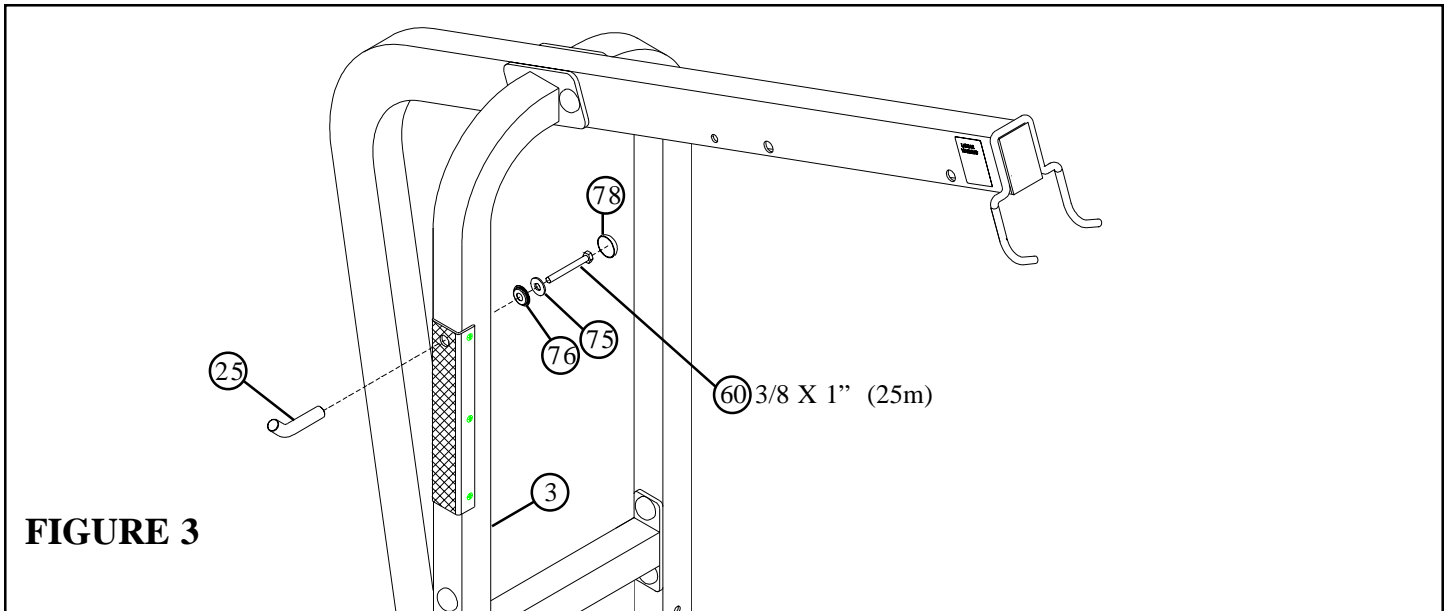

FIGURE 3
- **SECURELY** assemble one STORAGE PEG (25) to the LEFT BOOM SUPPORT (3) using one RH CAPS (78), one 3/8 X 1" BOLT (60), one 3/8" SAE WASHER (75) and one 3/8" RH WASHER (76) as shown in FIGURE 3.